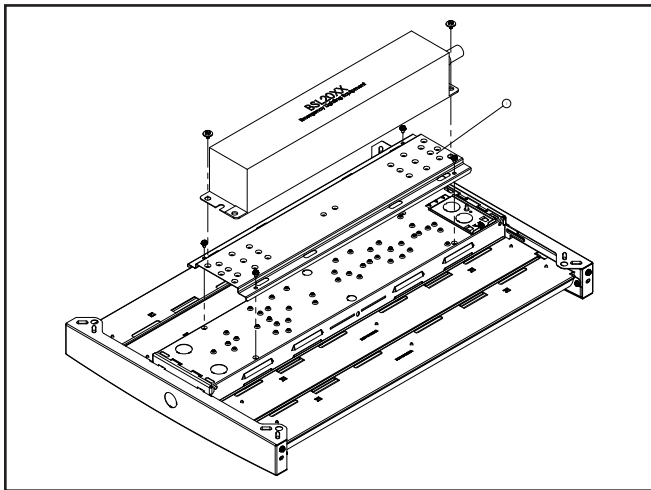

Figure 1.
2. Remove the battery pack and its mounting plate from the fixture by removing the 4 screws shown. (Figure 1.)